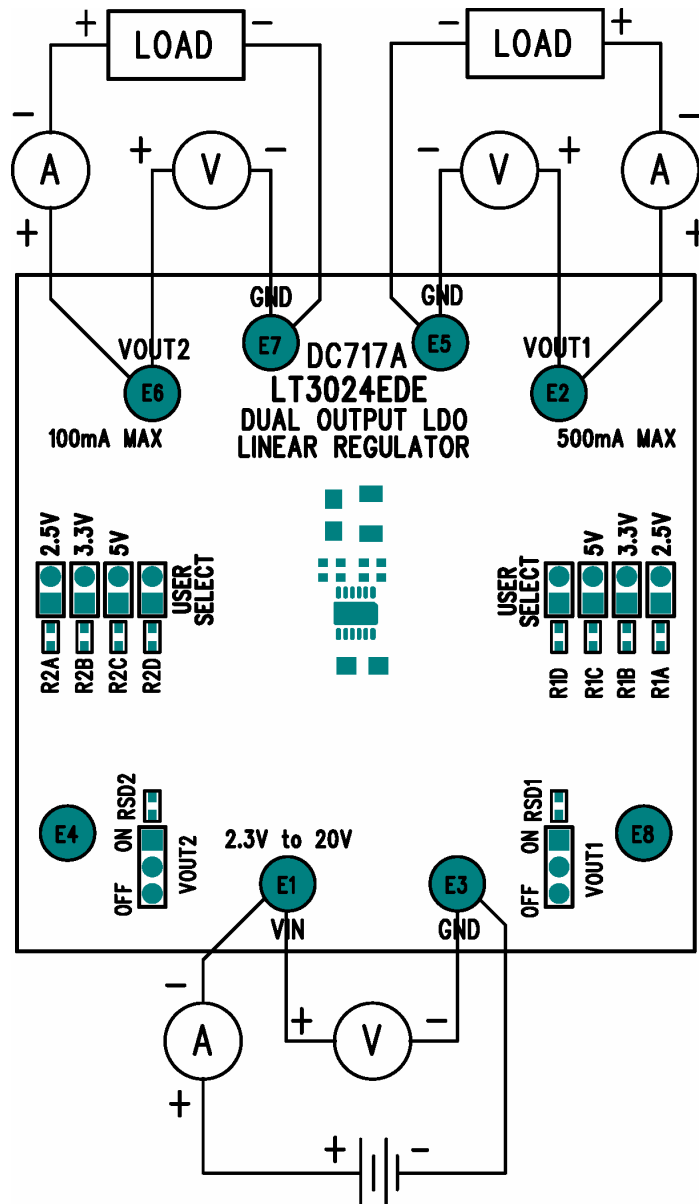

Figure1. Proper Measurement Equipment Setup
The DC717 is easy to set up to evaluate the performance of the LT3024. For a proper measurement equipment configuration, set up the circuit according to the diagram in Figure 1.
1. Connect the input power supply to the Vin and GND terminals. Connect the loads between the Vout and GND terminals. Refer to figure 1 for the proper measurement equipment setup.